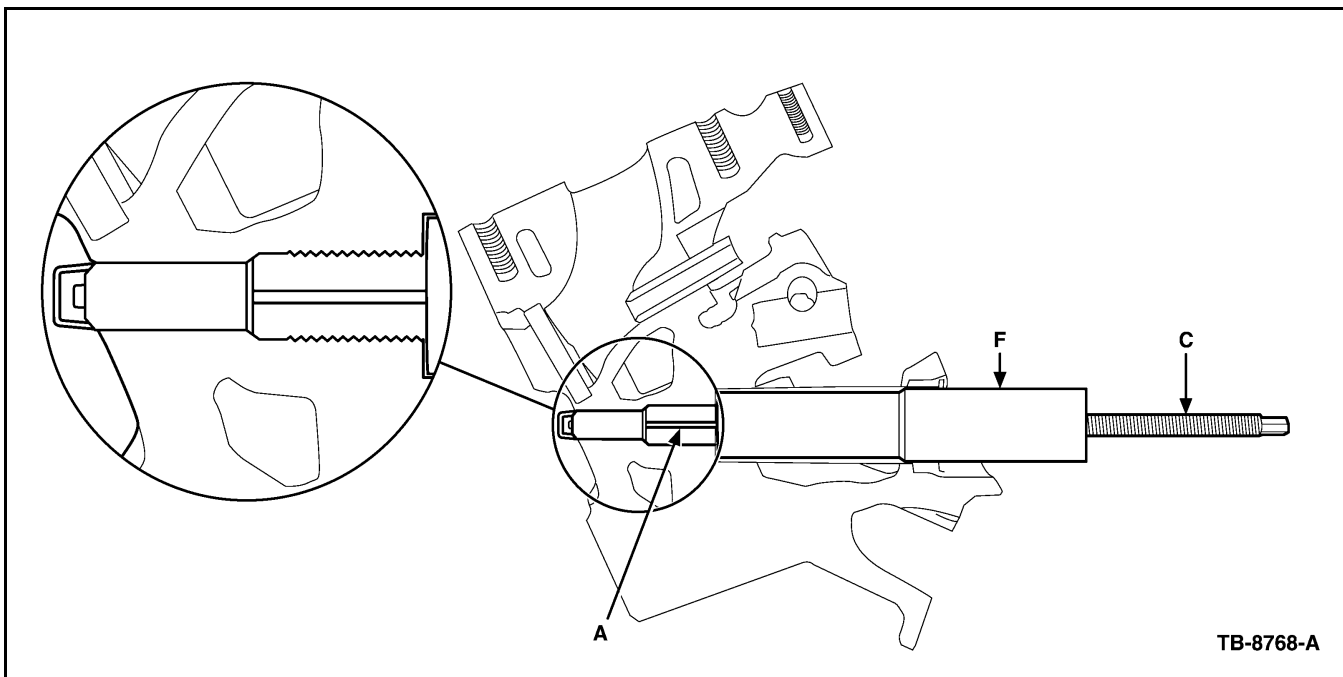

Figure 15 - Article 08-7-6
5. Insert the completed assembly into the spark plug well and fully engage the pin into the porcelain. (Figure 15)